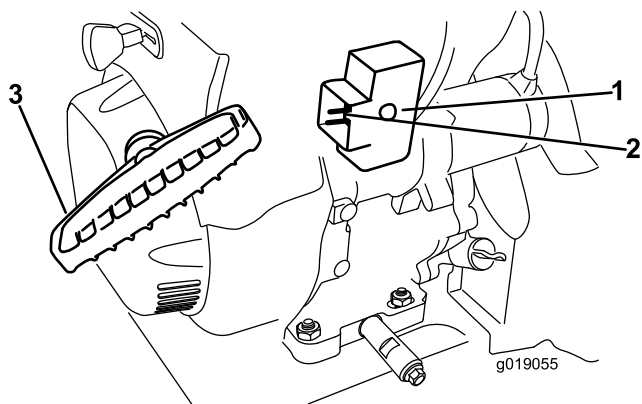

Figure 29
7. Start the machine by pulling the recoil-start handle or pressing the electric-start button (Figure 29).